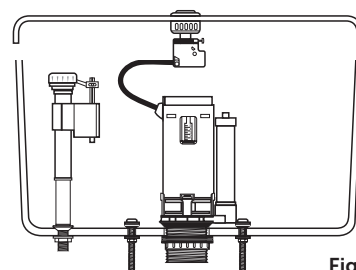

Fig. 12
- Ensure push button cable is not kinked or trapped and does not interfere with working components, (Fig. 12).